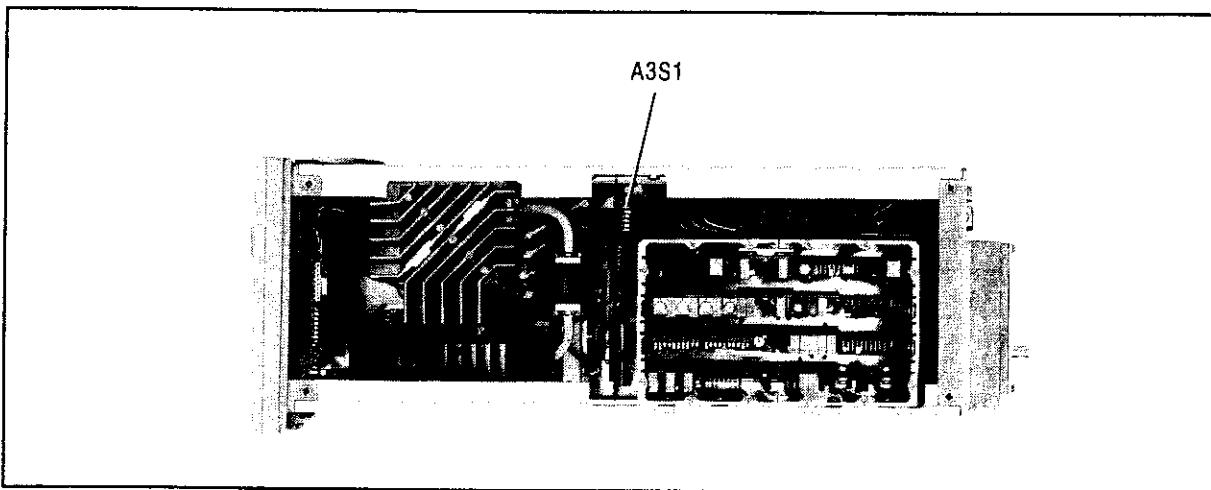

Figure 5-1. Configuration Switch A3S1 Location
2. Set configuration switch A3S1 (Figure 5-1) for the desired operating mode.